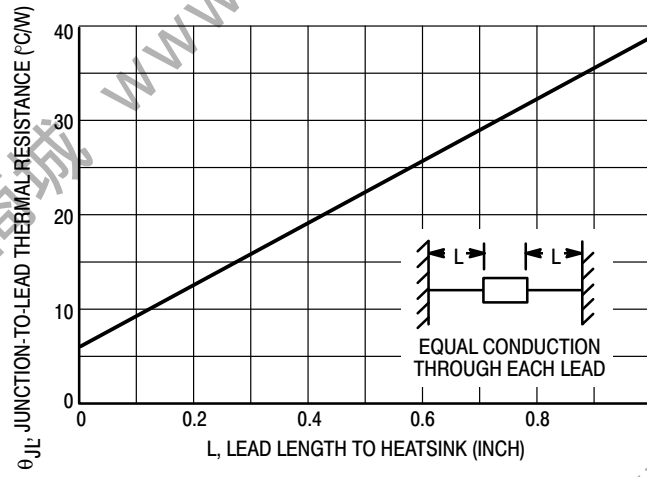
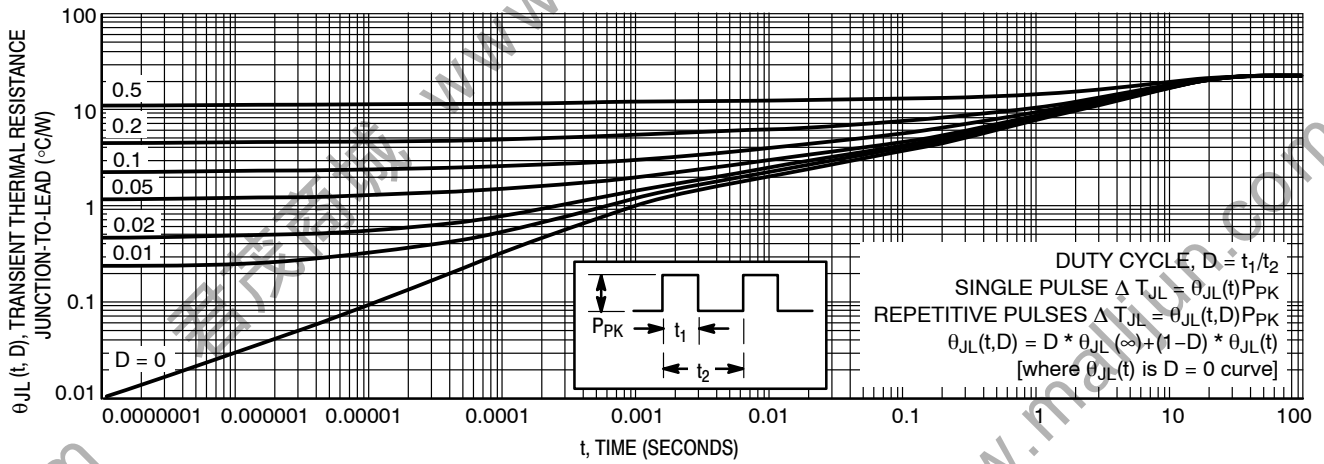
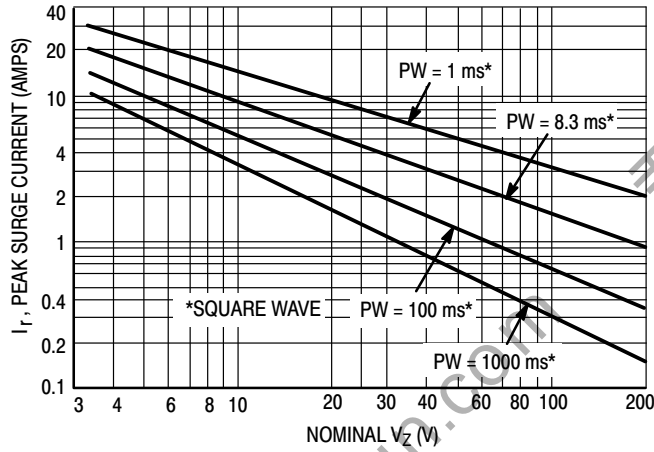
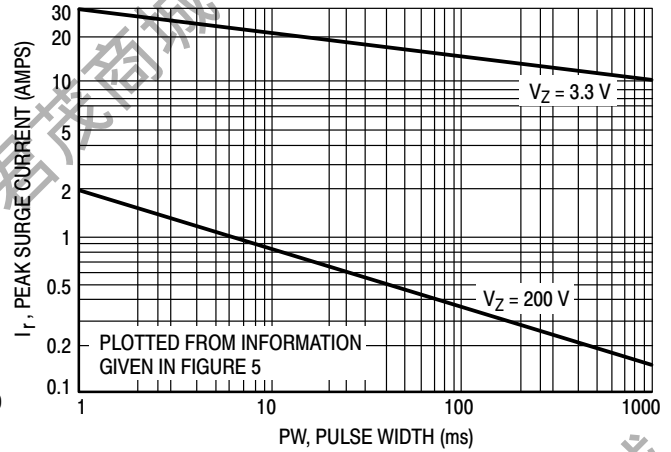

Figure 1. Typical Thermal Resistance
Figure 4. Typical Thermal Response
Figure 5. Maximum Non-Repetitive Surge Current
Figure 6. Peak Surge Current versus Pulse Width
4. **SURGE CURRENT (I_R):** Surge current is specified as the maximum allowable peak, non-recurrent square-wave current with a pulse width, PW, of 8.3 ms . The data given in Figure 5 may be used to find the maximum surge current for a square wave of any pulse width between 1 ms and 1000 ms by plotting the applicable points on logarithmic paper. Examples of this, using the 3.3 V and 200 V zener are shown in Figure 6. Mounting contact located as specified in Note 2 ($T_A = 25^\circ\text{C} + 8^\circ\text{C}, -2^\circ\text{C}$).
- SURGE CURRENT (I_R):** Surge current is specified as the maximum allowable peak, non-recurrent square-wave current with a pulse width, PW, of 8.3 ms. The data given in Figure 5 may be used to find the maximum surge current for a square wave of any pulse width between 1 ms and 1000 ms by plotting the applicable points on logarithmic paper. Examples of this, using the 3.3 V and 200 V zener are shown in Figure 6. Mounting contact located as specified in Note 7 (T_A = 25°C +8°C, -2°C).
ΔT_{JL} is the increase in junction temperature above the lead temperature and may be found from Figure 4 for a train of power pulses or from Figure 1 for dc power.
Data of Figure 4 should not be used to compute surge capability. Surge limitations are given in Figure 5. They are lower than would be expected by considering only junction temperature, as current crowding effects cause temperatures to be extremely high in small spots resulting in device degradation should the limits of Figure 5 be exceeded.